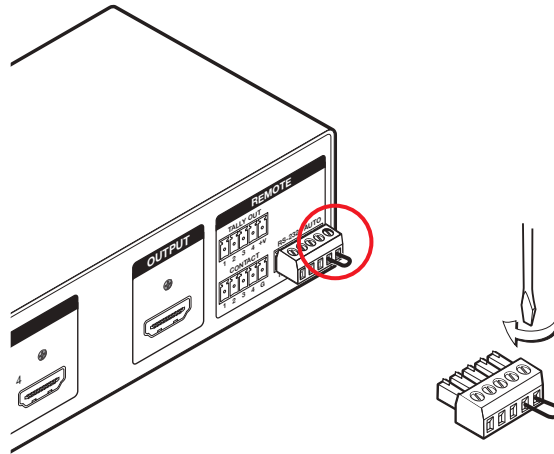

Figure 12. Auto Pins of the Remote Connector with a Jumper Installed
3. Use a small screwdriver to tighten the two screws above pin slots 4 and 5 of the plug so that the jumper wire ends remain securely in place (see figure 12).
Figure 12 shows an SW4 HDMI with a jumper connecting pins 4 and 5 to enable auto-input switching.